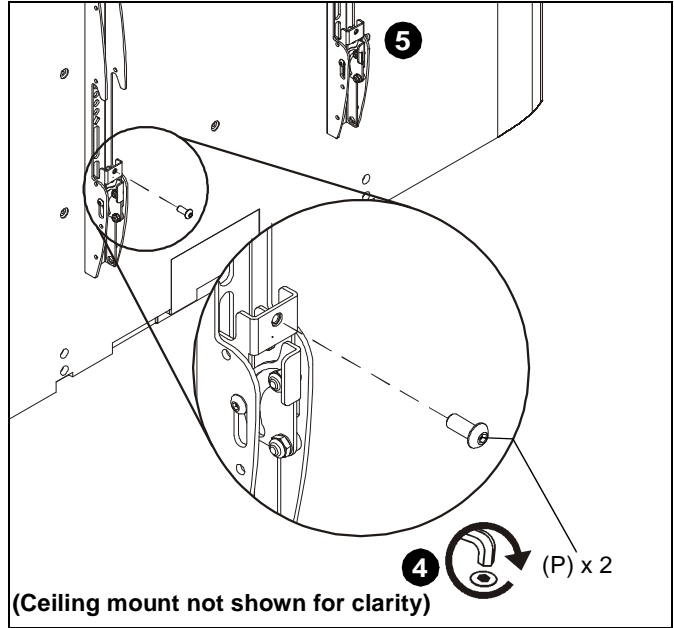

Figure 9
4. Fasten bracket against ceiling mount extrusion using one 10-24 x 5/8" button head cap screw (P). (See Figure 9)